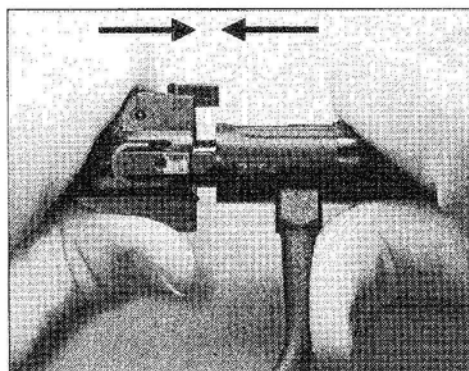

Fig. 05 Compressing The Firing Pin Spring
- 5.12.8 Holding the shroud assembly in the left hand and the bolt body in the right, push the cocking piece against the bolt body to compress the firing pin spring, see Fig. 05 "Compressing The Firing Pin Spring".